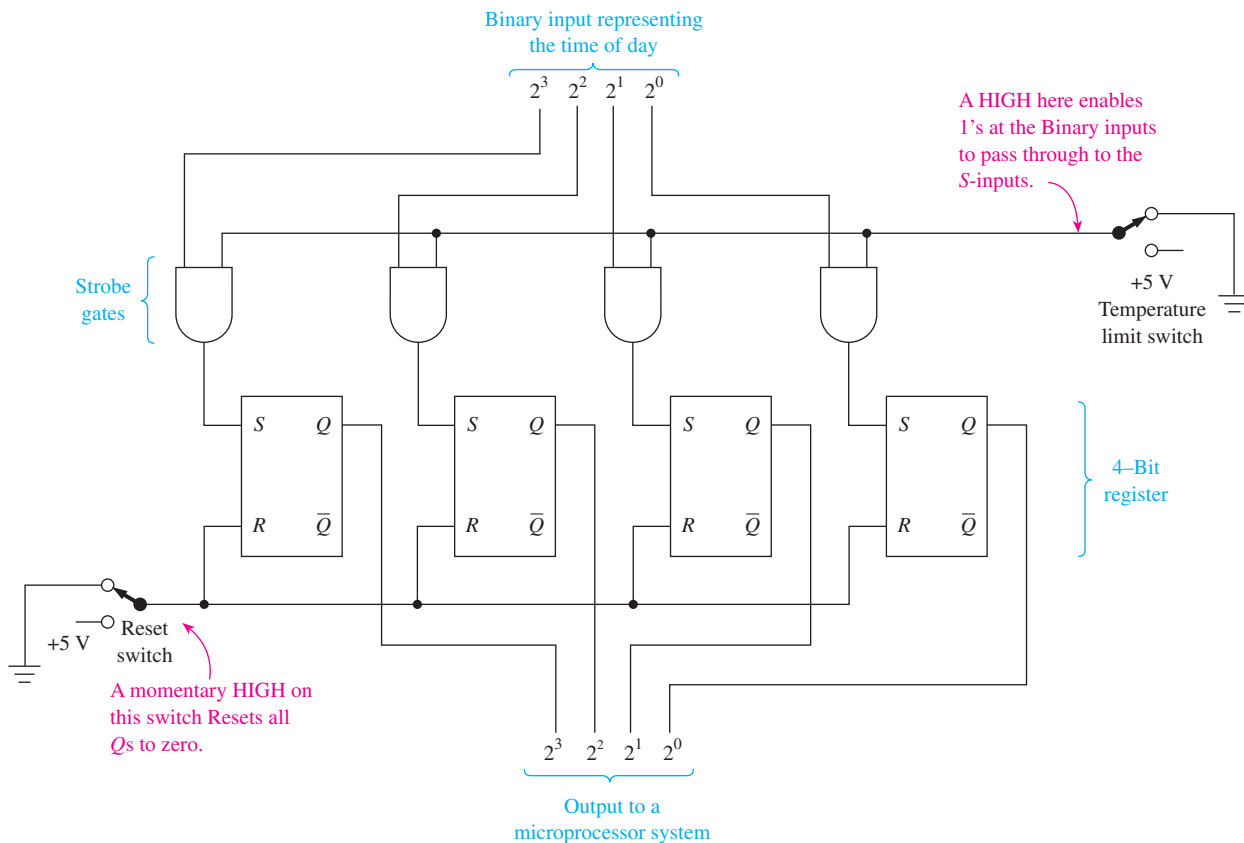

Figure 10–7 S-R flip-flop used as a storage register.
Let's say that we need a storage register that will *remember* the value of a binary number ($2^3 2^2 2^1 2^0$) that represents the time of day at the instant a momentary temperature limit switch goes into a HIGH (1) state. Figure 10–7 could be used to implement such a circuit. Because a 4-bit binary number is to be stored, we need four S-R flip-flops. We will look at their Q outputs with a logic probe to read the stored values.